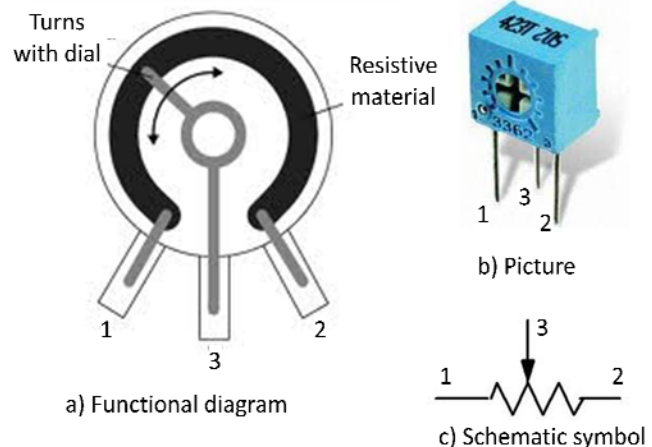

Figure 6 – Potentiometer description (left) and circuit symbol (right).
A potentiometer (or “pot”) is a variable resistor also known as a rheostat. A potentiometer is a circuit component with three terminals as shown in Fig. 6. Terminal 3, called the wiper, is connected to a movable contact or arm as shown in Fig. 6a. The resistance between terminals 1 and 2 is fixed and is equal to the rated value for the potentiometer. The resistance between terminals 3 and 1 or between 3 and 2 can be varied by rotating the center post (or screw head) in Fig. 6b, which corresponds to rotating the wiper. If terminals 1 and 2 are connected across a voltage source, then the voltage between terminals 3 and 1 and between 3 and 2 can be varied by rotating the dial. Fig. 6c shows the schematic symbol for a potentiometer.
1. Measure the resistance across the entire potentiometer (pins 1 to 2 in Fig. 6) in your lab kit.